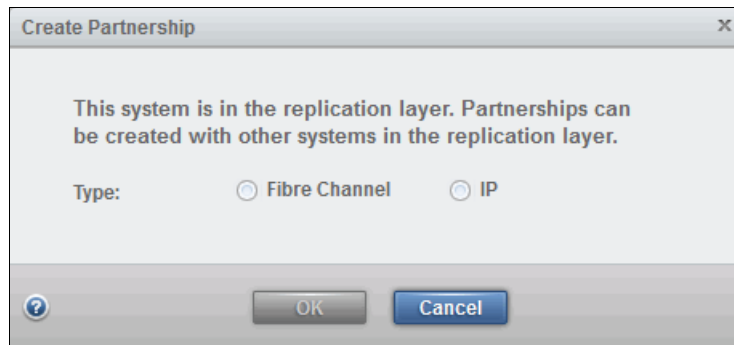

Figure 10-86 Creating an FC or IP partnership
2. You are prompted to choose between an FC or IP partnership, as shown in Figure 10-86.